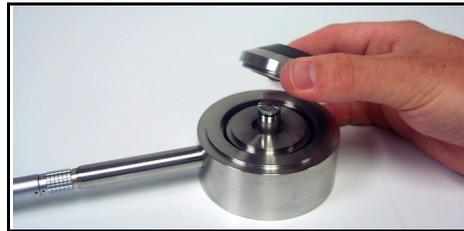

FIGURE 5-32 Coupler being installed on AEC201
Step 3 Screw the coupler over the base (FIGURE 5-32) until finger tight.